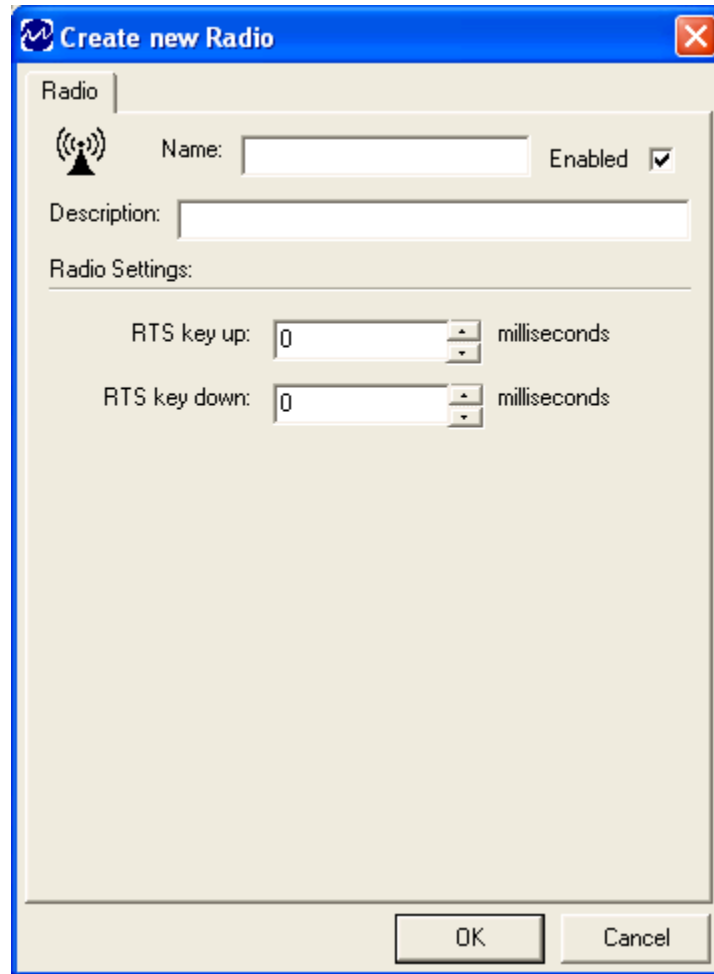

Figure 39 - Create New Radio Window
The **Create New Radio** window (Figure 39) displays the settings available for configuring a **Radio** link.
- The **Create New** window appears (Figure 39).